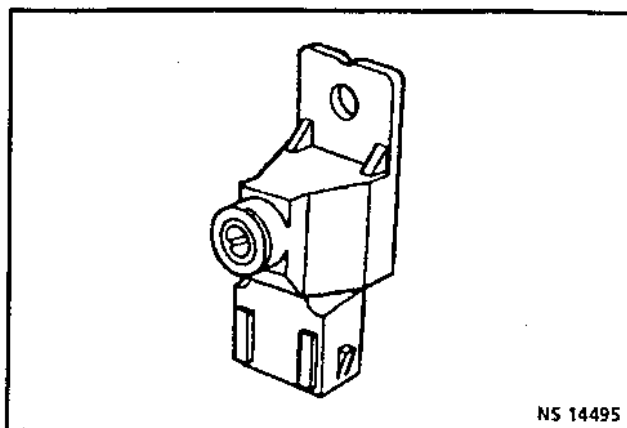

Figure 1.1-18 - Octane Adjustment Potentiometer
**OCTANE ADJUSTMENT****Figures 1.1-18 and 1.1-19**